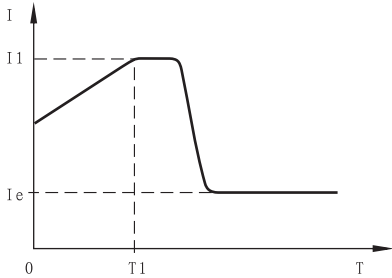

Figure 12-4-1
- a) The motor will be under current starting mode when code F9 is set to 4(current ramp). Figure 12-4-1 shows the output current wave of the current ramp starting mode, T1 is the time value set by code F1.